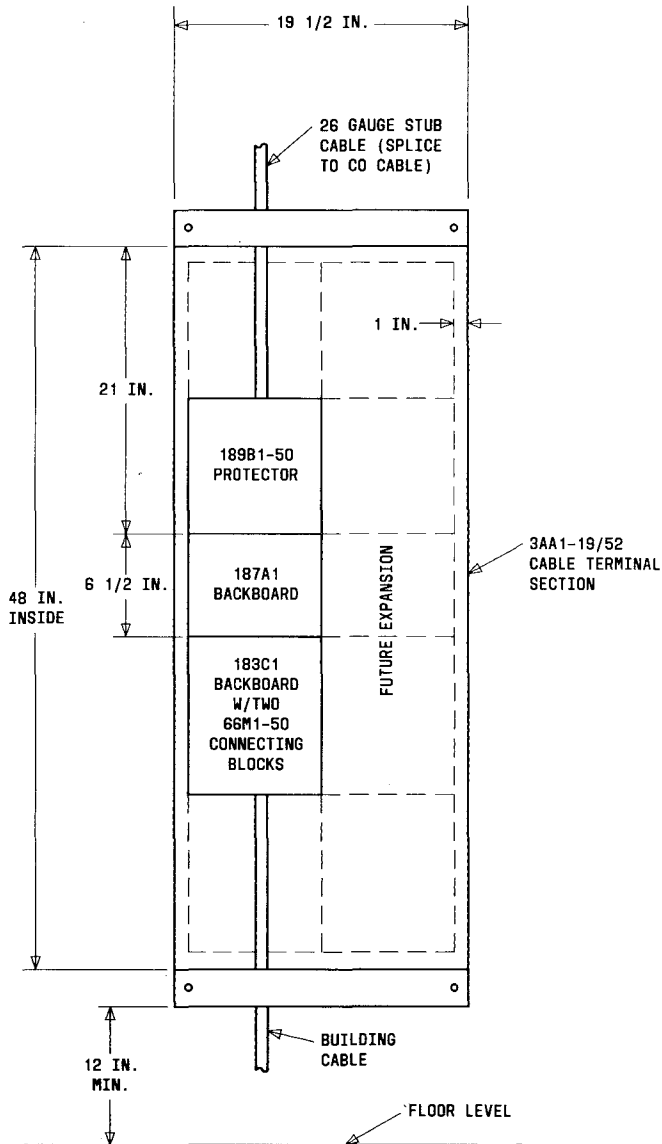

Fig. 11—50-Pair Entrance Cable—100-Pair Building Cable — Installed in 3A-Type Cable Terminal Section for Mechanical Protection
**3.05** Install the 189-type protector(s), 187-type backboard, and 183-type backboard (equipped with four 89B brackets), as shown in Fig. 11 and 12. Screws for installing the 189-type protector are furnished with the protector. The 187-type backboard shall be placed between the 189-type protector and the 66-type connecting blocks in each vertical column.